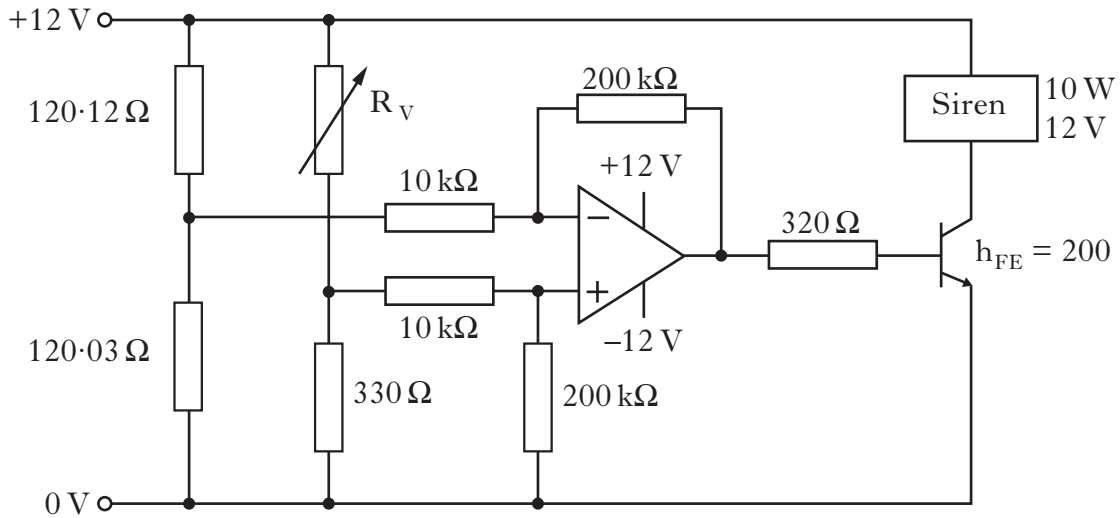

Figure Q9(b)
An alarm sounds if the force acting in member AE is too high. The overload alarm circuit is shown in Figure Q9(b) below, with the strain gauges showing their values when the alarm is activated.
- (d) Calculate the maximum value of the variable resistor R_v required so that the siren operates for the conditions shown in Figure Q9(b). 13